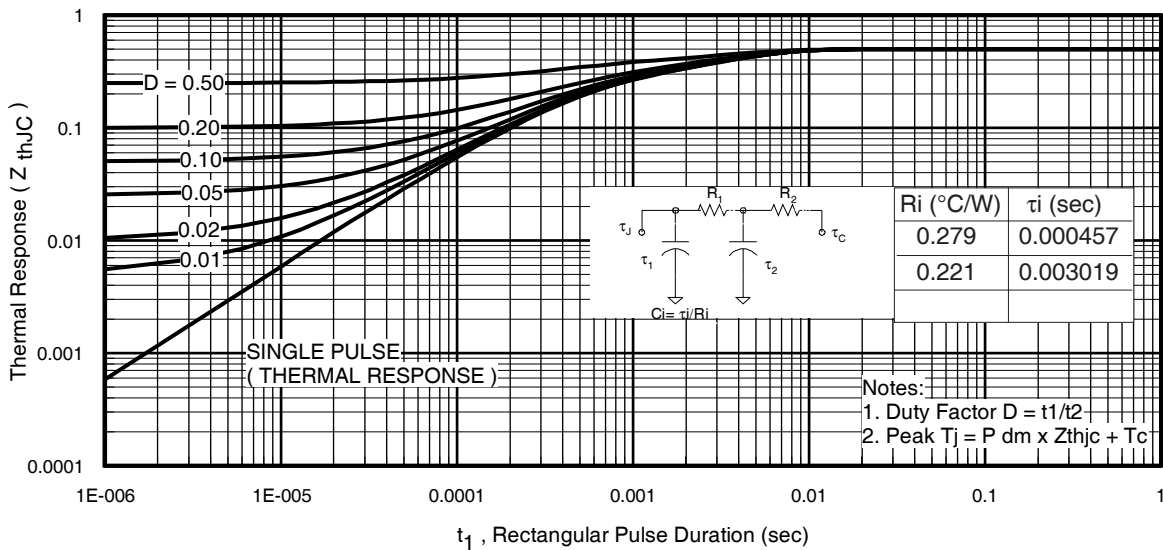
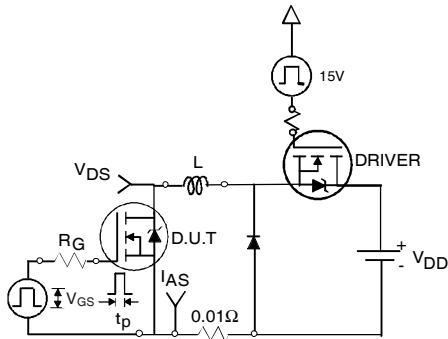

Fig 11. Maximum Effective Transient Thermal Impedance, Junction-to-Case
Fig 12a. Unclamped Inductive Test Circuit
- ① Repetitive rating; pulse width limited by max. junction temperature. (See fig. 11).
- ② Limited by T_{Jmax} , starting $T_J = 25^\circ\text{C}, L=0.095mH, R_G = 25\Omega, I_{AS} = 75A, V_{GS} = 10V$. Part not recommended for use above this value.
- ③ $I_{SD} \leq 75A, di/dt \leq 340A/\mu s, V_{DD} \leq V_{(BR)DSS}, T_J \leq 175^\circ\text{C}$.
- ④ Pulse width $\leq 1.0ms$; duty cycle $\leq 2\%$.
- ⑤ $C_{oss\ eff.}$ is a fixed capacitance that gives the same charging time as C_{oss} while V_{DS} is rising from 0 to $80\% V_{DSS}$.
- ⑥ Limited by T_{Jmax} , see Fig.12a, 12b, 15, 16 for typical repetitive avalanche performance.
- ⑦ This value determined from sample failure population. 100% tested to this value in production.
- ⑧ This is applied to D²Pak, when mounted on 1" square PCB (FR-4 or G-10 Material). For recommended footprint and soldering techniques refer to application note #AN-994.
- ⑨ R_θ is measured at T_J of approximately 90°C .
- ⑩ TO-220 device will have an R_{th} of 0.45°C/W .
3. Equation below based on circuit and waveforms shown in Figures 12a, 12b.
$Z_{thJC}(D, t_{av})$ = Transient thermal resistance, see figure 11)